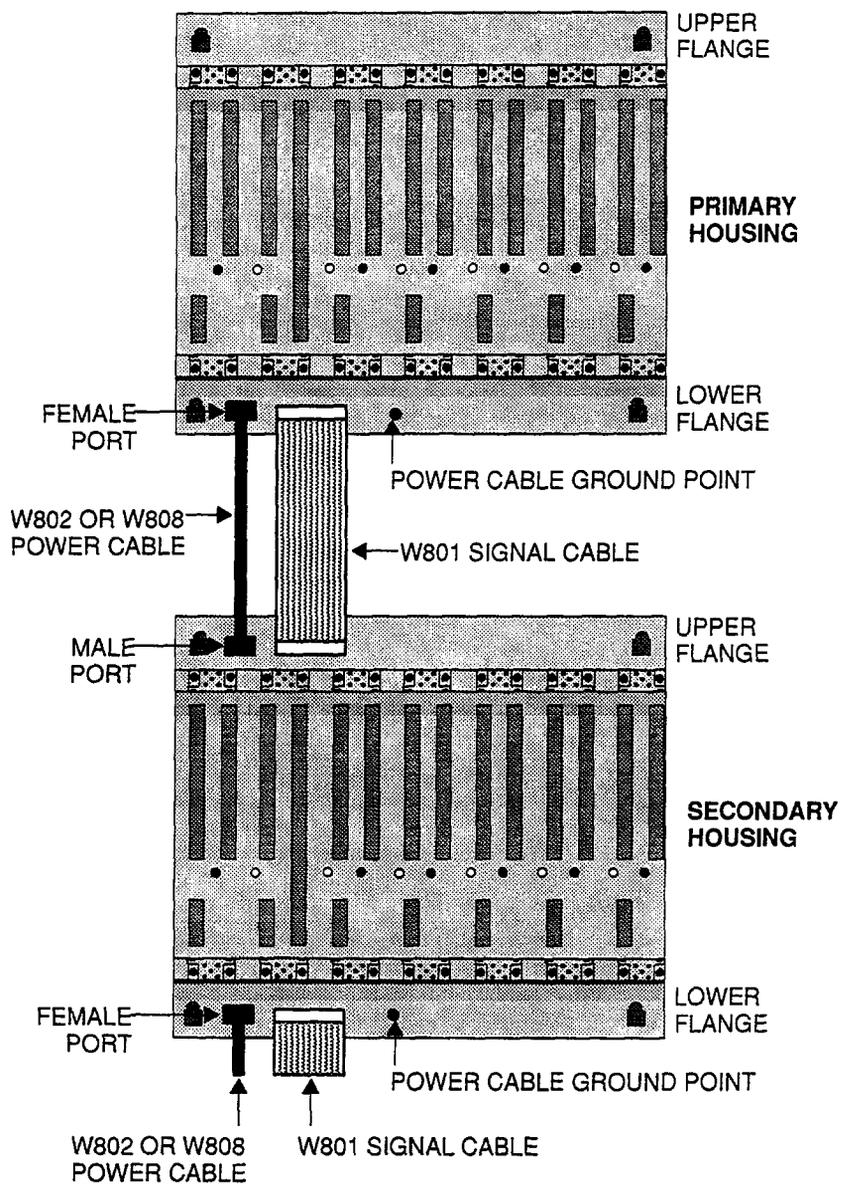

Figure 28 Connecting Cables within Each Drop
- Step 5** Repeat Steps (3) and (4) above for each housing in Drop 2.
- Step 6** Using appropriate lengths, connect your W801 signal cable and W802 power cable (use W804 auxiliary power cable when required) between the signal and power connector ports at the top and bottom of each housing as shown in Figure 28.
- Step 7** Ground all W802 power cables to each housing's ground point in the drop as shown in Figure 28. The grounding lug requires a #10 machine screw.
- Step 8** Repeat Steps (1) thru (7) above for all remaining Remote I/O drops.
- Step 5** Repeat Steps (1) thru (4) above for all remaining housings within Drop 2.
- Step 6** Using appropriate lengths, connect your W801 signal cable and W802 power cable (use W808 auxiliary power cable when required) between the signal and power connector ports at the top and bottom of each housing within the drop as shown in Figure 28.
- Step 7** Ground each W802 power cable to the housing's ground point shown earlier in Figure 28. The grounding lug requires a #10 machine screw.
- Step 9** Repeat Steps (1) thru (8) above for all remaining drops according to plan.